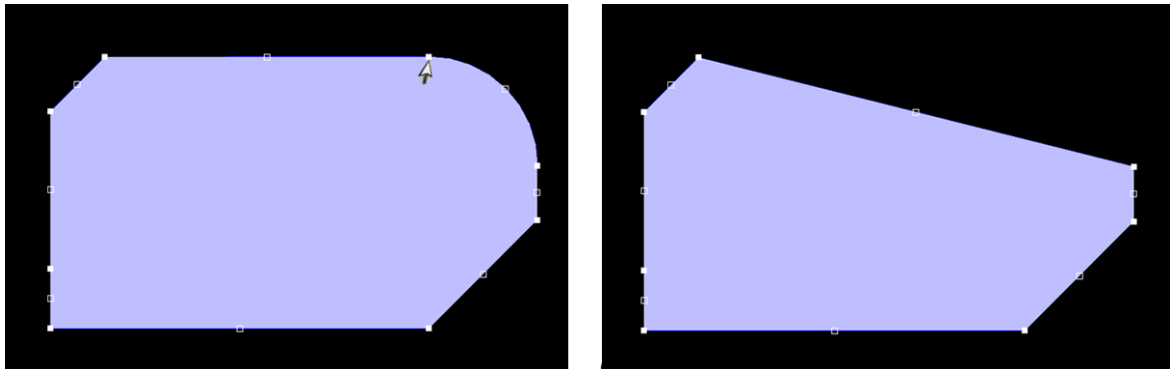

Figure 17. Deleting a vertex
53. Using the same polygon, click and hold a corner vertex. The cursor will turn into a crosshair, and the vertex can be removed with the **Delete** key, reshaping the polygon. An example of this is shown in Figure 17.